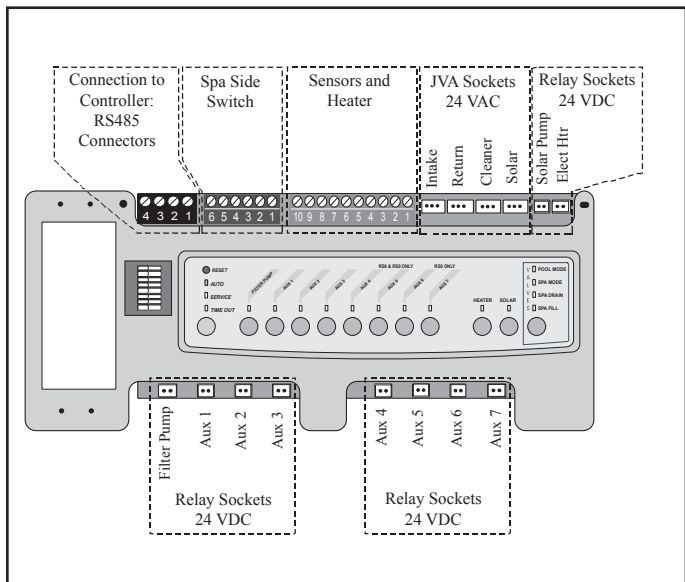

Figure 25. PCB with firmware REV MMM or lower
**NOTE** Only an AquaLink® RS System with firmware revision "N", or higher, will support the heater interface. Refer to Table 7 and Figures 25 and 26 to determine the REV of your system's firmware. If it is "N" or higher, continue with these procedures. If it is MMM or lower, follow the procedures in Section 6.5.2.